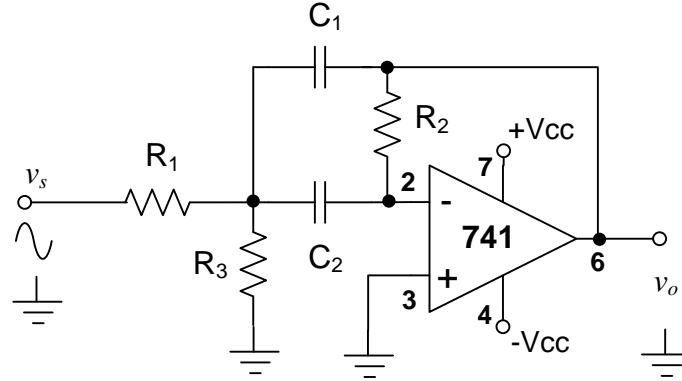

Figure 3: A second-order BPF based on a single op amp.
A circuit that realize biquadratic BPF based on a single op amp is shown in Figure 3 known as Delyiannis-Friend biquad
2. Design the circuit of Figure 3 to achieve $f_o = 10 \text{ kHz}$, $Q = 3$ and gain of 5. Use $C_1 = C_2 = 5 \text{ nF}$.